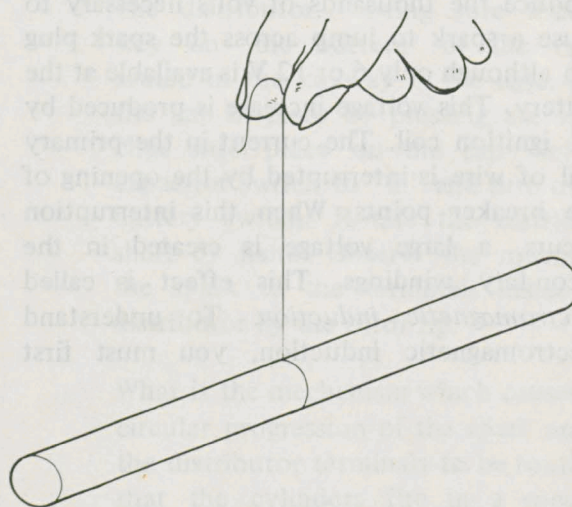

Figure 7.
5. Suspend one of the rod magnets on a string so that it swings freely in a horizontal plane as shown in Figure 7. Bring another magnet near the suspended one. Explore how the ends, or *poles*, of the two magnets interact. You may have heard that "like poles repel; unlike poles attract each other." What is "alike" about the poles that repel each other? Is it some tangible, visible "likeness"?
6. Examine what is actually meant by the terms "like" and "unlike." Return to the suspended rod magnet (as in Figure 7). Observe how it settles down after it has received a "kick," or deflection. Watch it very carefully; keep track of where each pole ends up regardless of the orientation from which you start the magnet. What do you observe?